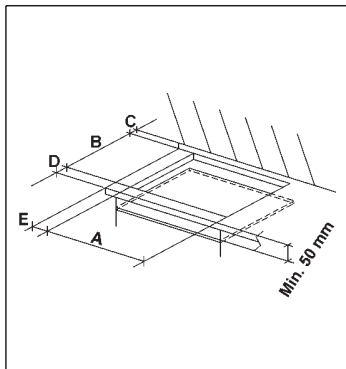

FIG. 7
The measurements of the opening made in the top of the modular cabinet and into which the hot plate will be installed are indicated in either fig. 7. Always comply with the measurements given for the hole into which the appliance will be recessed (see fig. 7 and 8).
- In order to avoid accidental touch with the overheating bottom of the hob, during the working, is necessary to put a wooden insert, fixed by screws, at a minimum distance of 50 mm from the top (see fig. 7).